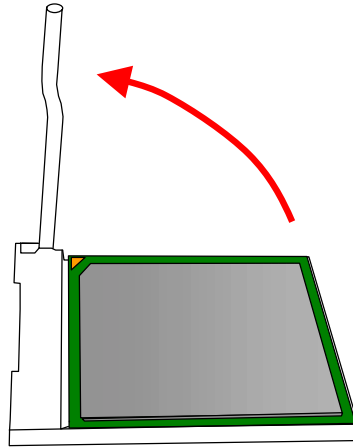

Figure 2-7 Free the CPU
4. To remove the existing CPU, lift the socket arm up to the vertical position. (Figure 2-7)